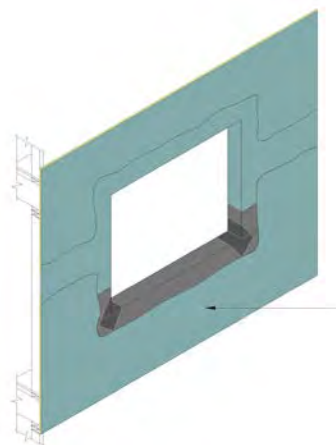

Figure 12
- 4) Install the specified component (i.e. window, etc.) and associated flashings per manufacturer's directions and contract documents. Then apply Backstop NT – Texture, Smooth or Spray to the remainder of the wall surface as described in Section VI and lap over the previously installed material (do not lap over Flashing Tape if specified) around openings – Figure 12.